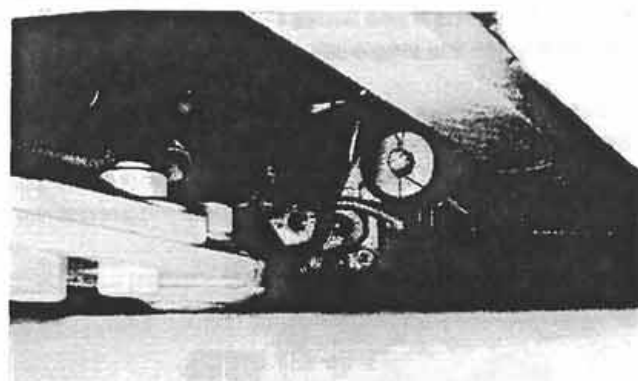

Figure 3:
3. Completely remove the brake cam, washer and lock nut from the caliper assembly (Fig. 3).